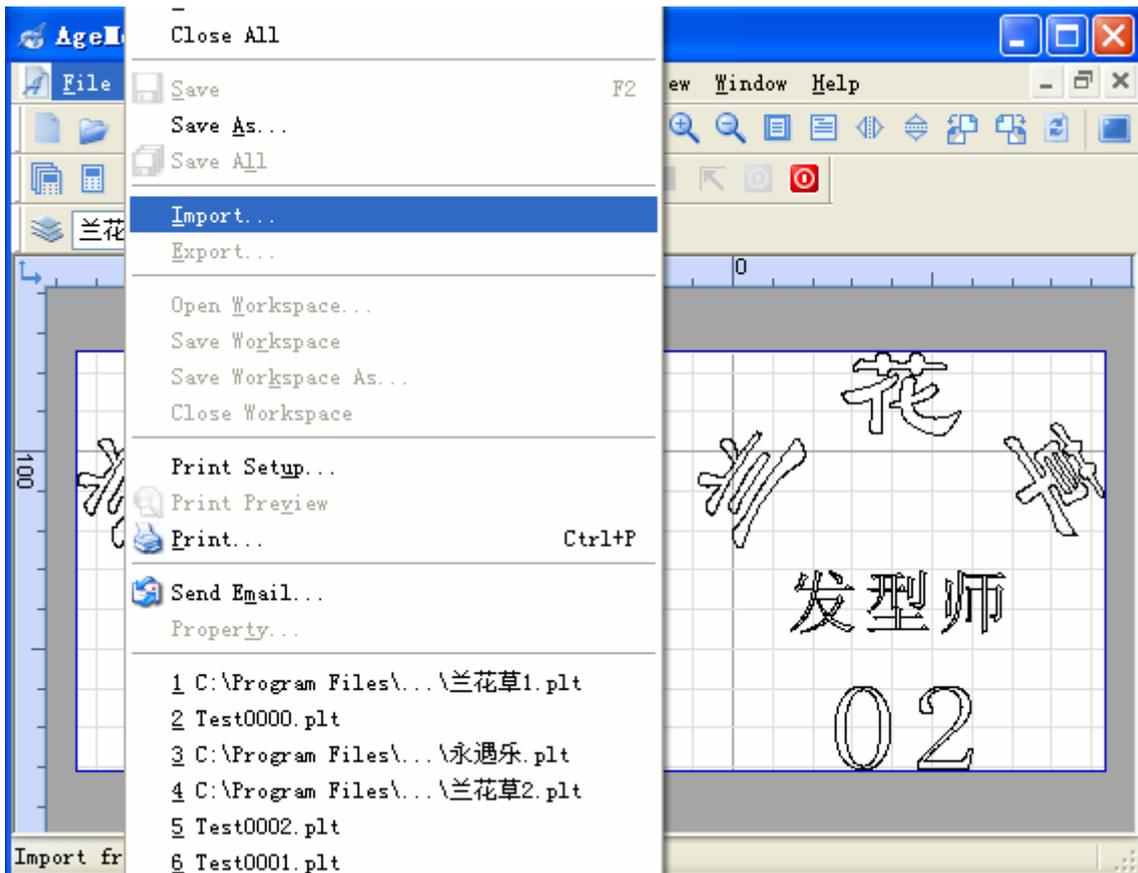
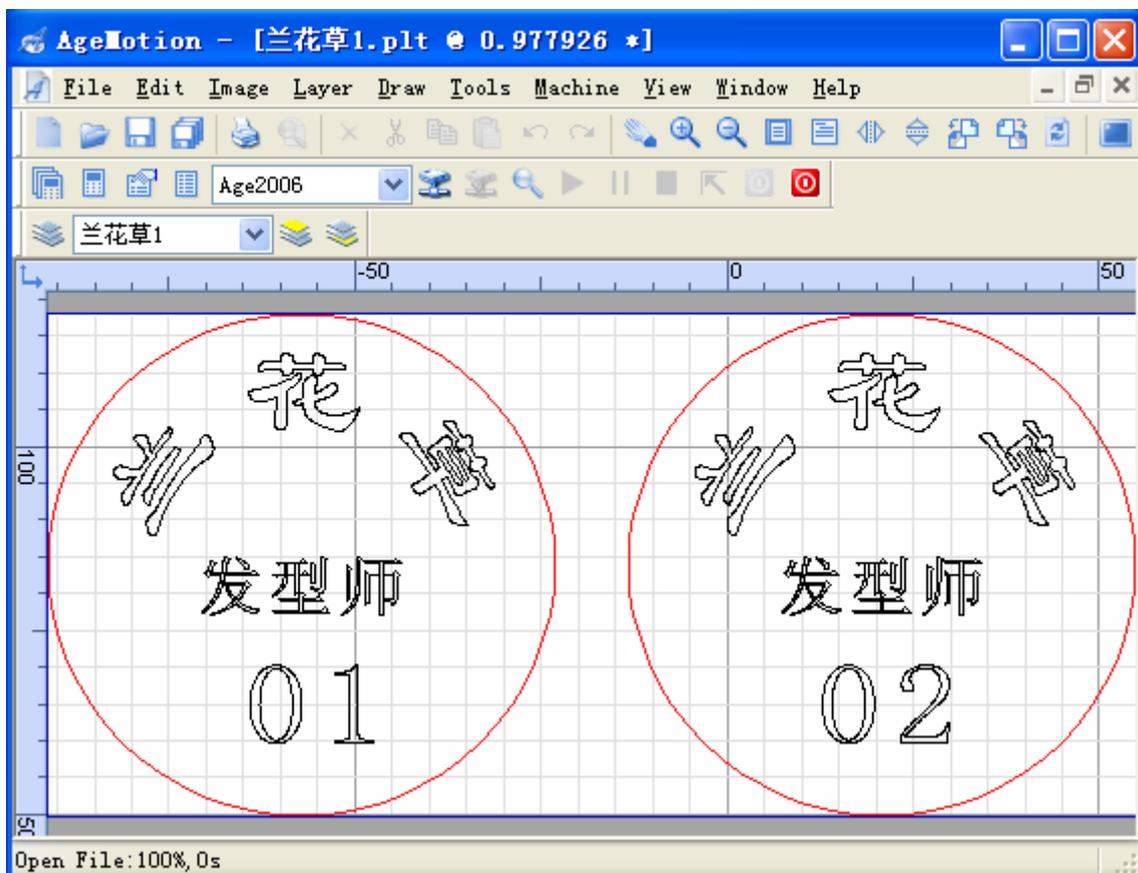

Figure 6-38 Import a File
Figure 6-39 Complex
2. Choose the **Import** options in the **File** menu (see Figure 6-38), import the second plt file "兰花草 2.plt" to combine with the first file, the complex likes the Figure 6-39 shows: